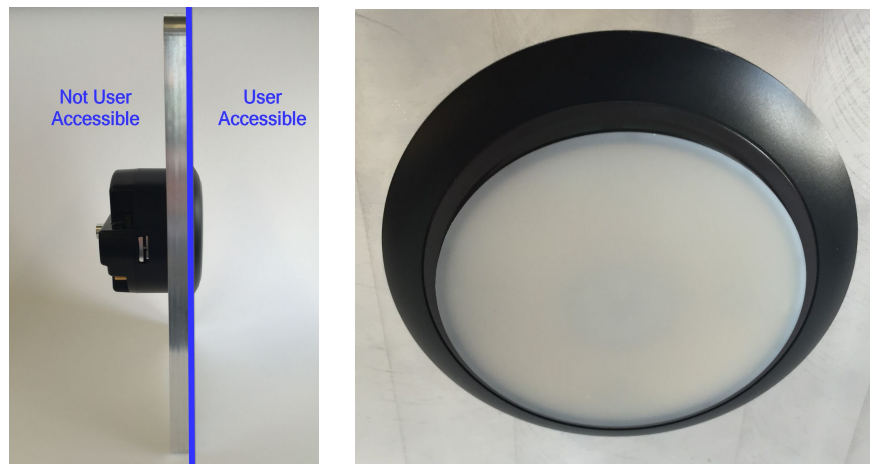

Figure 3 - User Accessible Surfaces
- **PN:** 310-019266 (Figure 3)